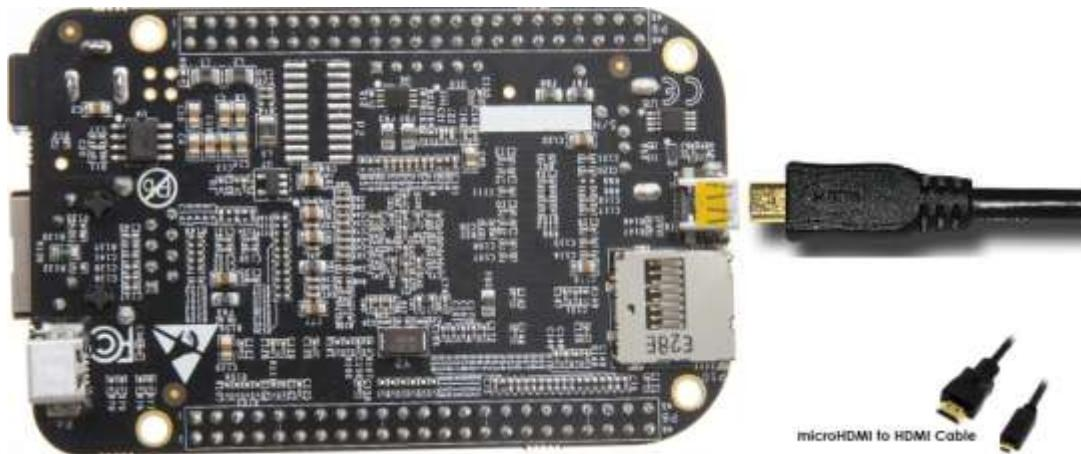

Figure 14. Connect microHDMI Cable to the Board
6. The cable needed to connect to your display is a microHDMI to HDMI. Connect the microHDMI connector end to the board at this time. The connector is on the bottom side of the board as shown in **Figure 14** below.